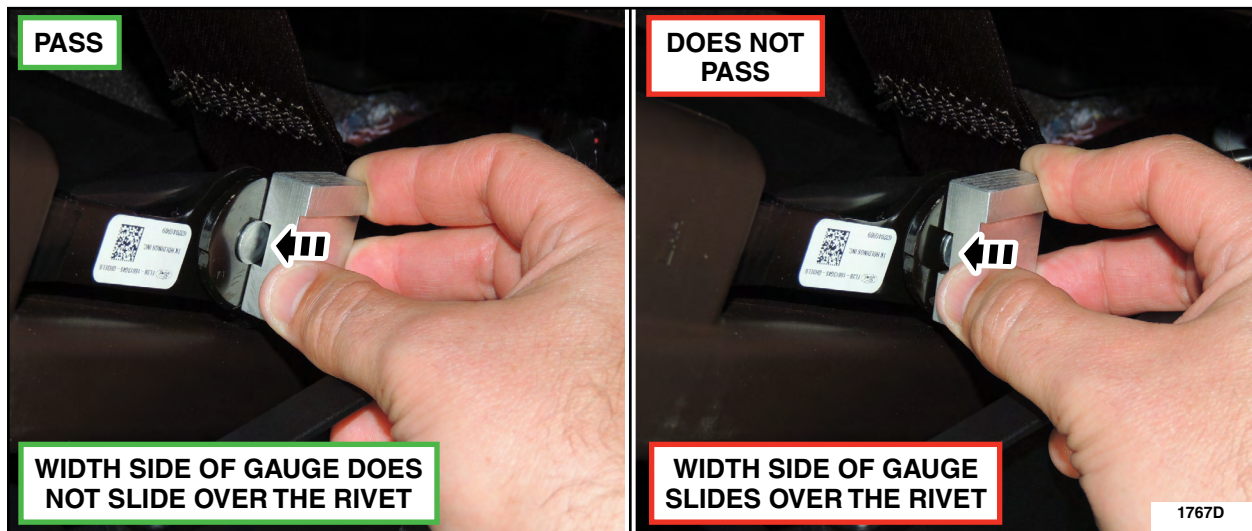

FIGURE 3
- a. Place the narrow groove (width measurement) of the gauge flat against the outboard rivet head bracket. See Figure 3.